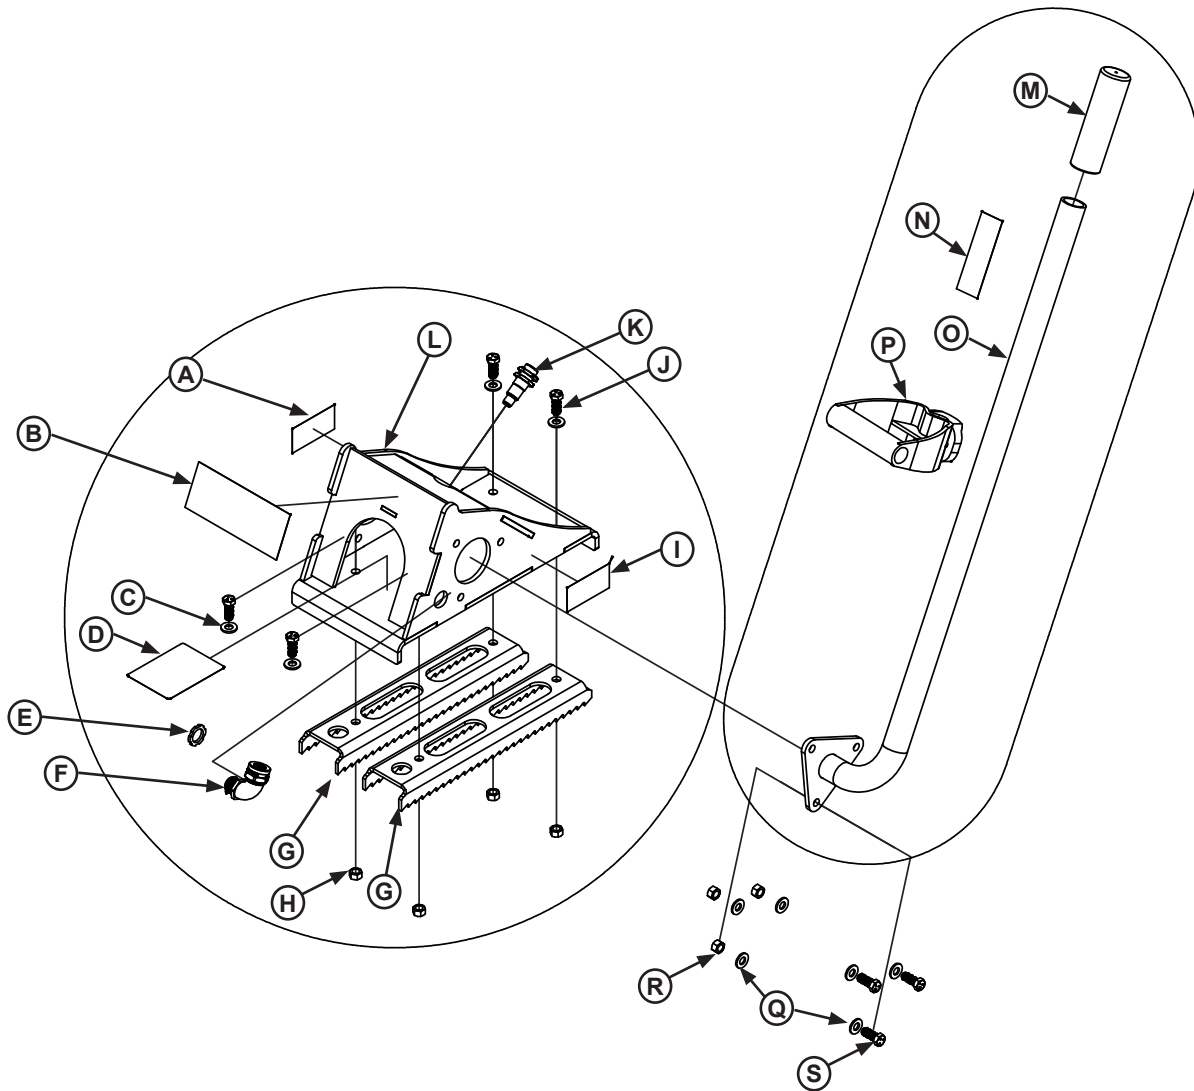

Figure 15
- a. Assemble the chock handle to the chock base using hardware supplied in the UniChock kit. See Figure 15.